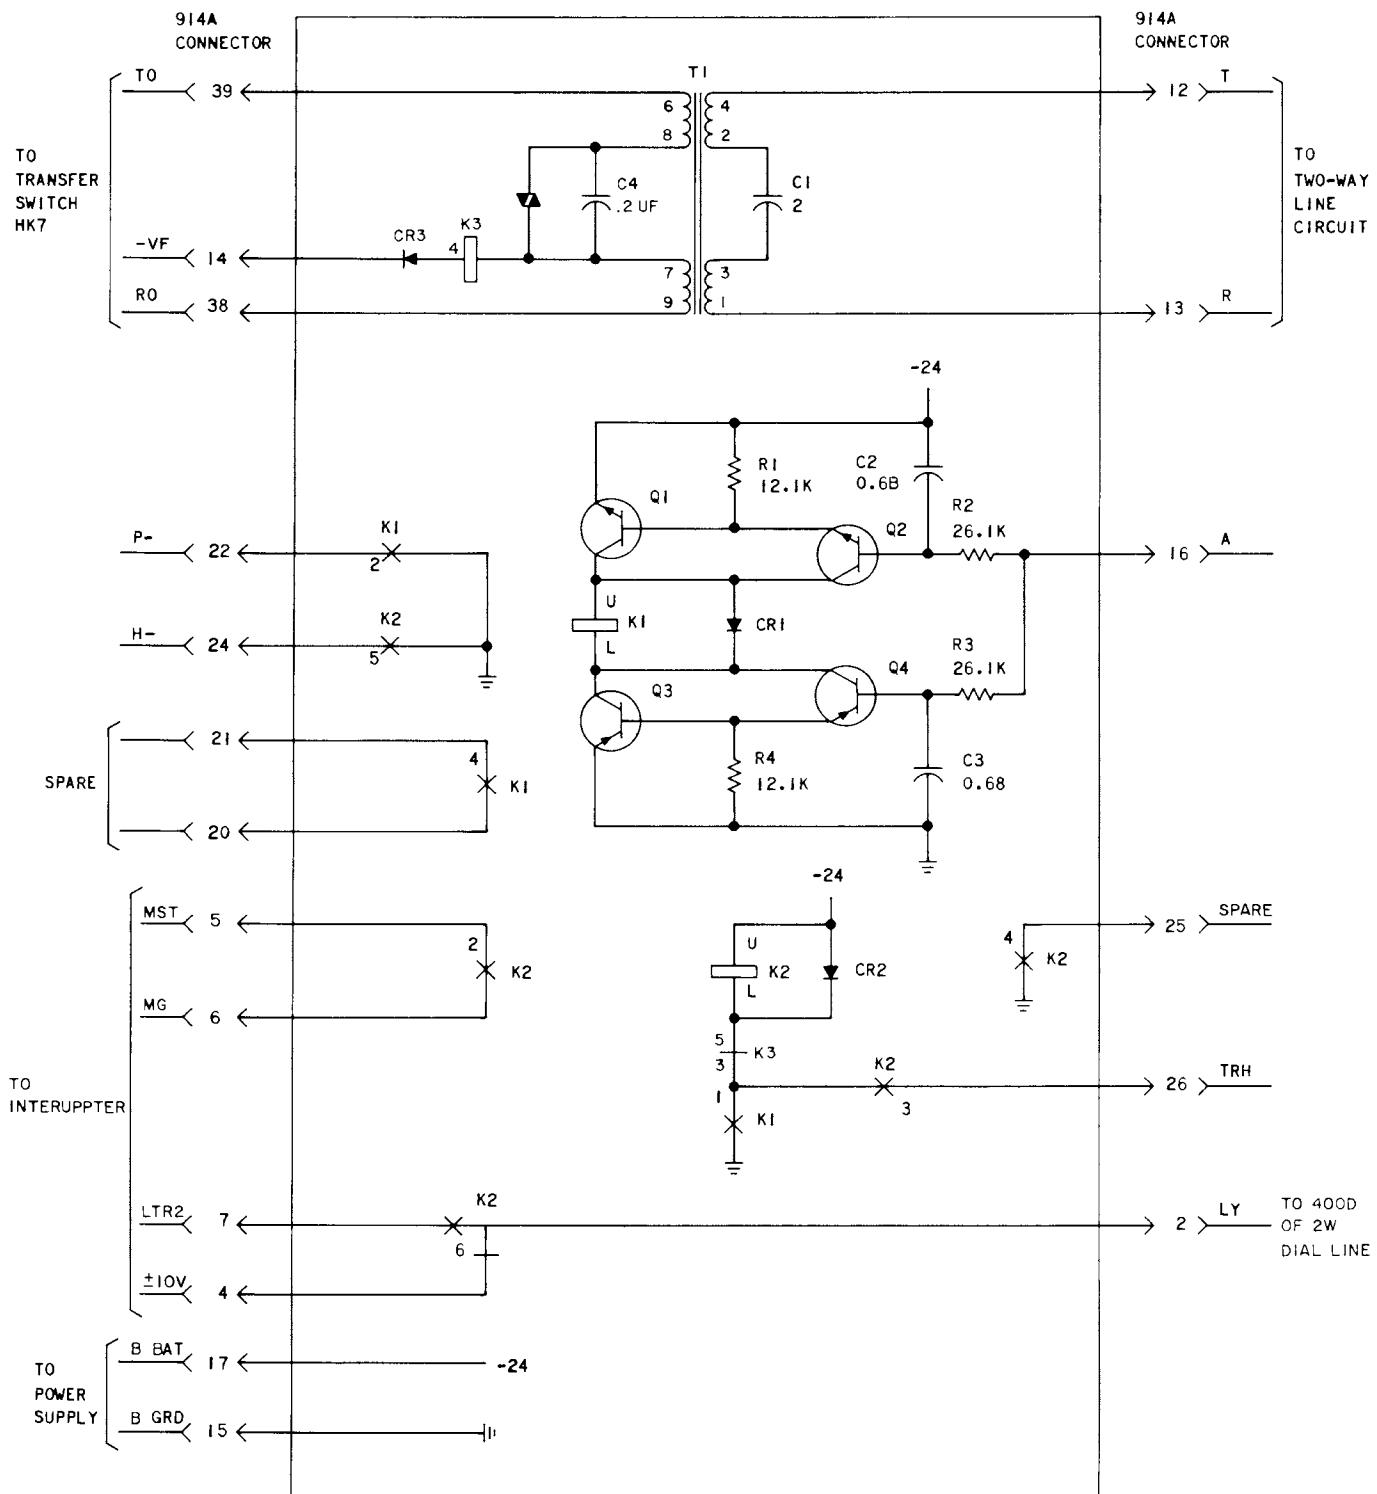

Fig. 8—Condensed Functional Schematic of Circuit Pack AE38 (Tie Line Transfer Circuit)
3.05 The AE38 (Fig. 8) provides a transmission path and control functions when an incoming call is transferred to a tie line. The AE38 is connected between the transfer switch (HK7) and the tie line circuit (AE39) during the transfer operation. One AE38 is required for each tie line circuit (AE39).